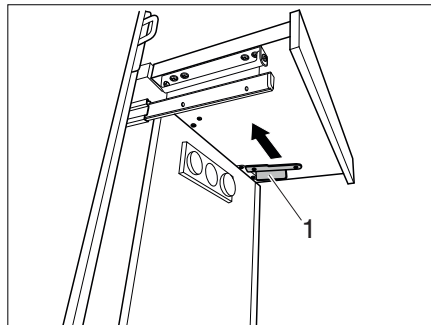

Fig. 121 Securing the extension
- Push the lock (Fig. 121,1) forwards. The extension is secured.
- Loosen the lock (Fig. 121,1).